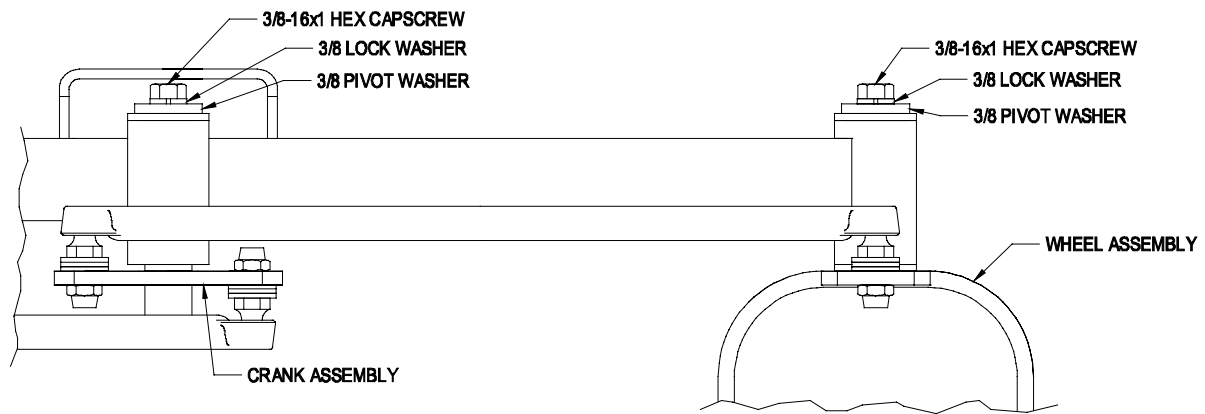

Figure 1
2. Install the wheel assemblies to each side of the sulky frame. Fasten with one 3/8-16 x 1 hex capscrew, one 3/8" pivot washer, and one 3/8" lockwasher on each side. See Figure 1.
3. Install the crank assembly to the center rear portion of the sulky frame. Fasten with one 3/8-16x1 hex capscrew, one 3/8" pivot washer, and one 3/8" lockwasher. See Figure 1.